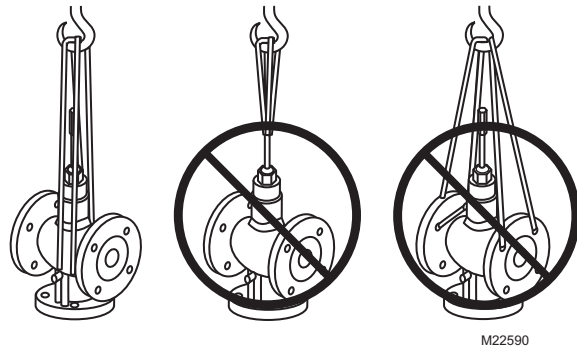
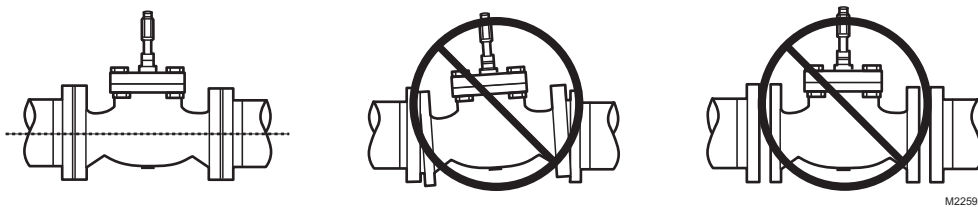

Fig. 8. Proper hoisting of VGF Valves.
Fig. 10. Basic pipe orientation.
The valves are to be installed by skilled personnel and in strict accordance with the installation instructions and local regulations. (See Fig. 8 for proper hoisting method.) Honeywell assumes no responsibility for damages or injuries resulting from non-compliance with installation instructions or standard good practice when mounting, operating, or maintaining the valves, even if not explicitly mentioned in the installation instructions. (See Fig. 10 for basic pipe orientation.) Observe all safety practices when working with steam systems.
1. Hoist valve by its body only. Do not lift by stem, bonnet, flanges, or flange holes. (See Fig. 8.)